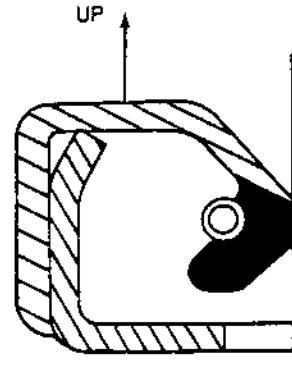

FIGURE 6.
17. Fill the other seal (6) for the top pivot with grease. See Specifications in this section for the correct grease.
18. Use an acceptable driver to install the seal (6) in the bottom of the top pivot, refer to Figure 6.
19. The bottom of the seal (6) must be even with the bottom of the top pivot.